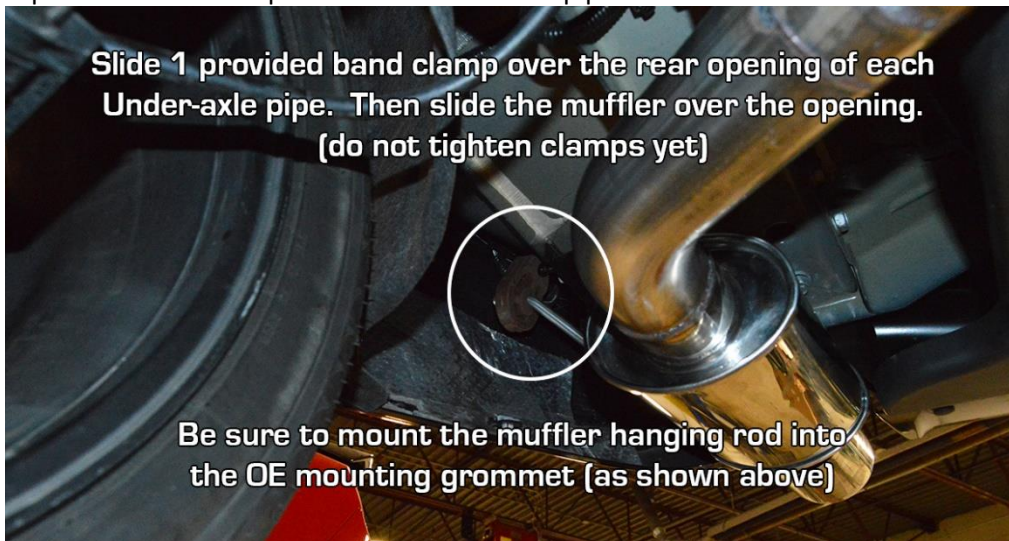

Figure 5
STEP 8: To install the muffler, start by sliding the Muffler hanging rods into the OE mounting grommets. Then slide the muffler over the Under-axle pipe (Fig 5) DO NOT TIGHTEN THE CLAMPS YET.